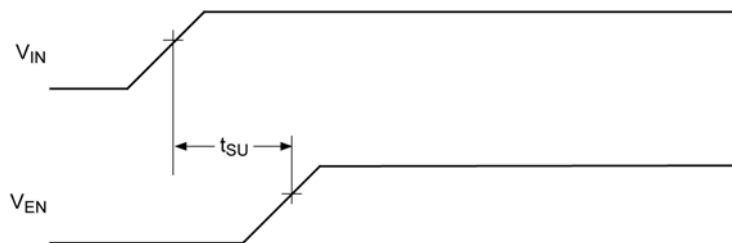

Figure 1c. Input-to-Enable Setup Timing
| $t_{SU}$ | $V_{IN}$ to EN Set-Up              | MIC2549 (7) , Figure 1c                        | 0    |      |      | $\mu s$    |